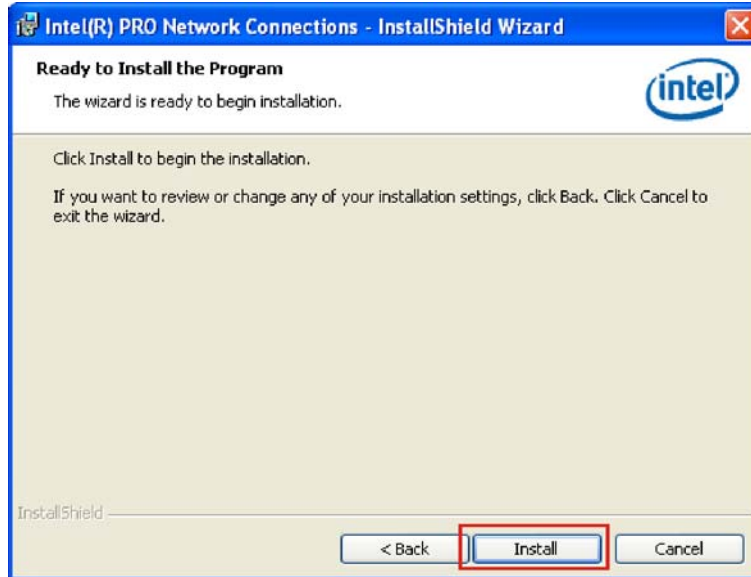

Figure 7-19: LAN Driver Installation Ready Window
Step 10: The drivers are ready to install. Click **INSTALL** to begin the installation process (Figure 7-19).